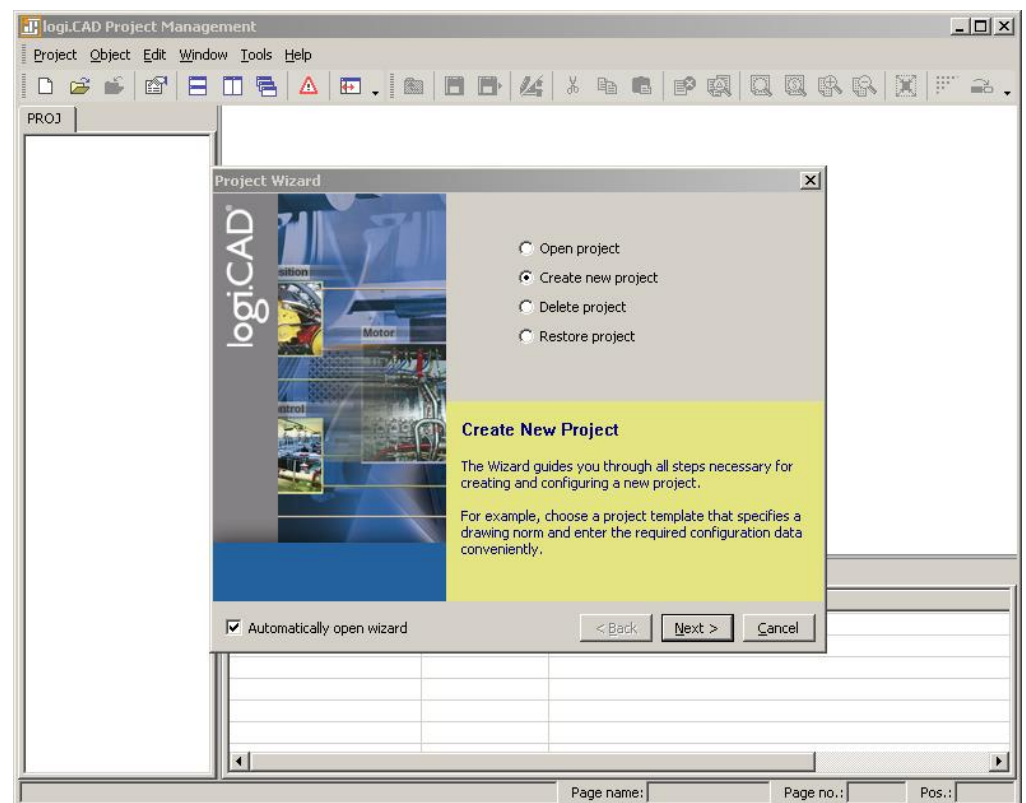

Figure 38: logiCAD project wizard
2. The project wizard starts automatically as shown in Figure 38.